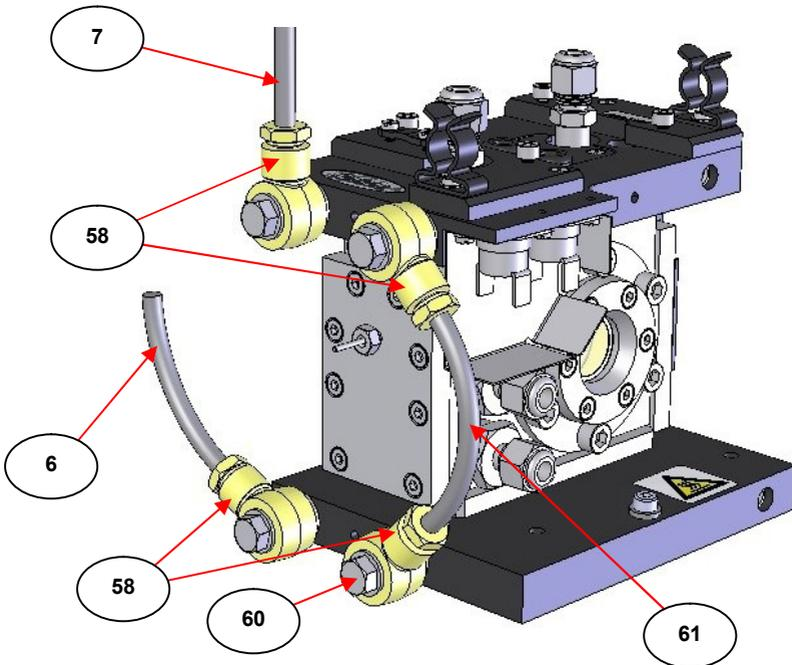

Fig 7. Nylon Tubing Connections to Banjo Fittings
Quick Connect insert parts (7) and (9) MUST be removed from the standard water connections fittings (4) for re-use in connection to their appropriate installed banjo fittings. A new shorter Nylon tubing assembly (61) to connect between the upper (1) and lower (2) water cooled plates is provided with a left to right beam kit of parts. Fig 7. shows where the Nylon tubing connections (6 - inlet), (7 - outlet) and (61 - plates connection) are made to the installed banjo fittings (58). The nut and ferrule connections on the Nylon tubing are screwed into the banjo fitting (58) and tightened across the nut head on the tubing by use of the 13mm A/F spanner supplied with the HTHP Cell kit of parts.